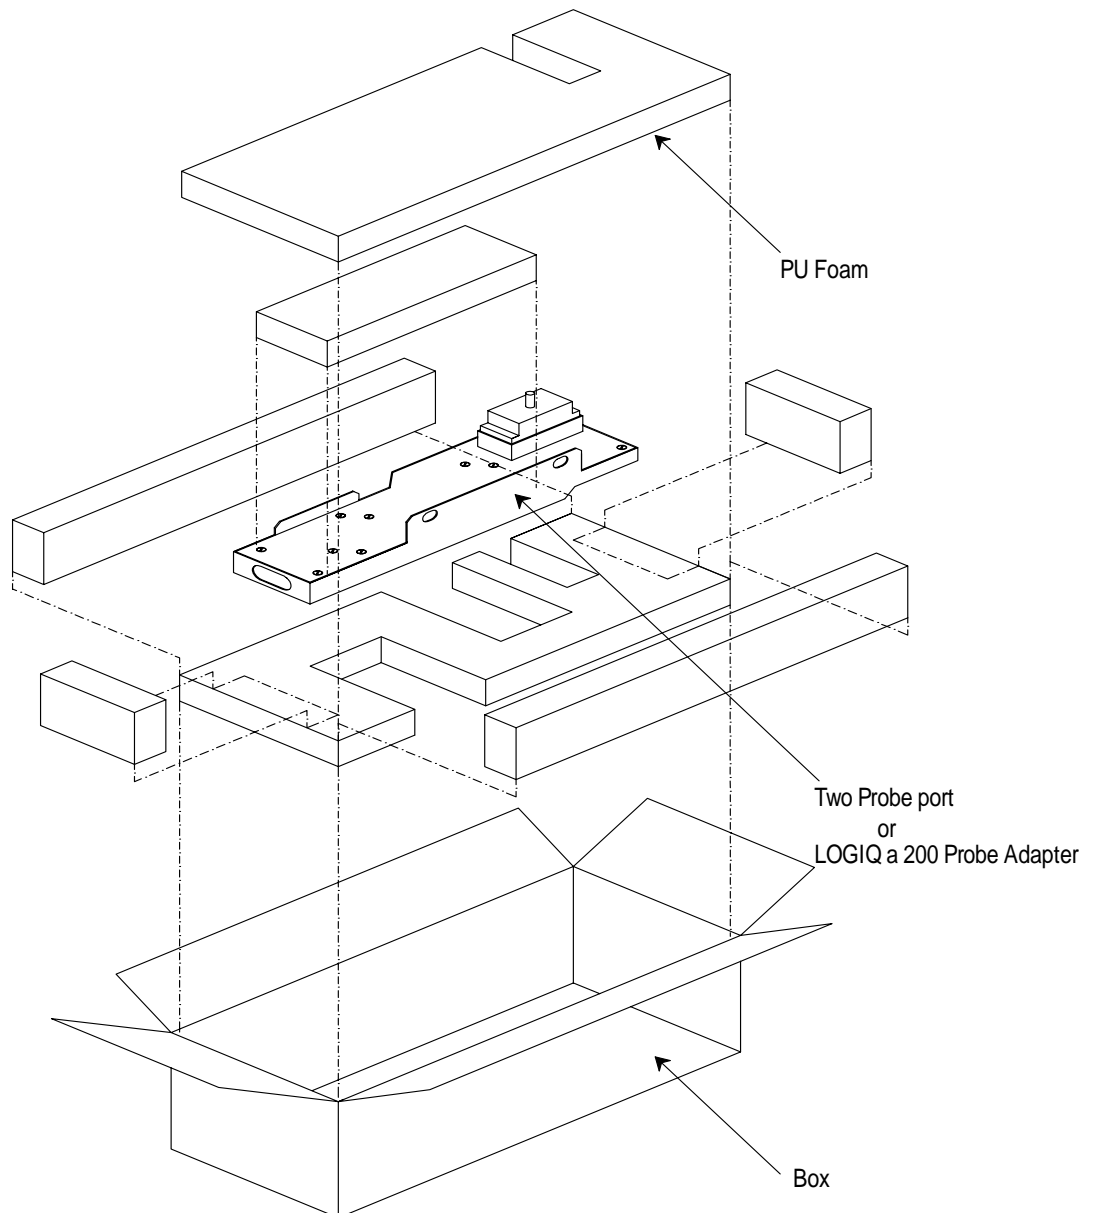

Figure 3-16 Unpacking Two Probe Adapter or LOGIQ α 200 Probe Adapter
- 2.) Remove the PU Foams inside the two probe port or LOGIQ α 200 Probe Adapter box (Refer Figure 3-16)
- 3.) Take out the two probe port or LOGIQ α 200 Probe Adapter (Refer Figure 3-16)